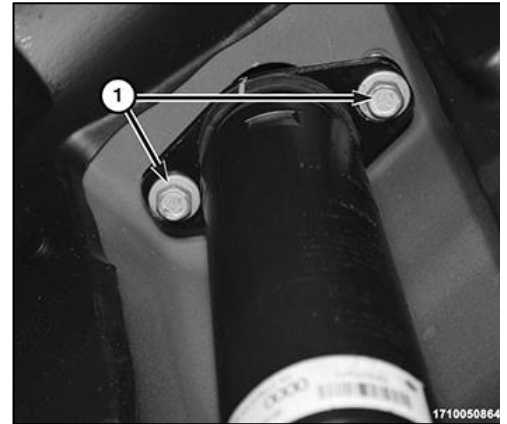
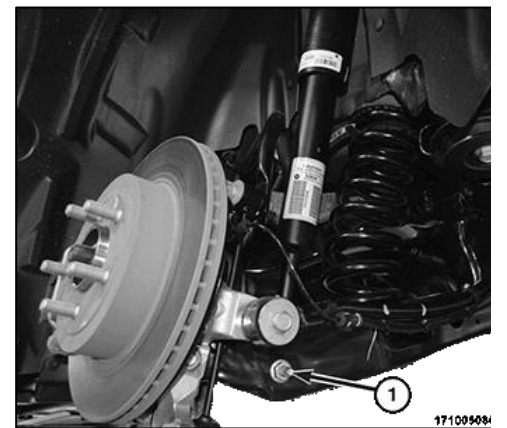

Figure 18
Figure 19
42. Install the shock absorber lower bolt (1). Do not tighten at this time. Install the shock absorber upper bolts (1). Tighten to 46 Ft. Lbs. (63 Nm). <Figure 18>
43. Re-Install brake calipers. Before installing the brake caliper guide pin bolts, clean guide pin bolt threads and apply Mopar® Lock AND Seal Adhesive or equivalent. Align the brake caliper guide pin bolts (5) with the brake caliper adaptor (1). While holding guide pins from turning, tighten to the proper torque 23 Ft. Lbs. (31 Nm)
46. Position vehicle on alignment rack/drive-on hoist. Raise vehicle as necessary to access lower mounting bolt. Tighten shock absorber lower bolt to 96 Ft Lbs (130 Nm). <Figure 19>